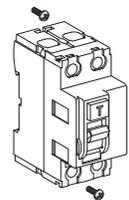

Figure 1
2. The RCCB can be mounted on either 35mm symmetrical Din rail or directly on to a flat surface by fixing a screw(s) into the flat surface and leaving it proud. Locate RCCB up under the screw and insert another screw through the Din rail clip, see figures 1 and 2.